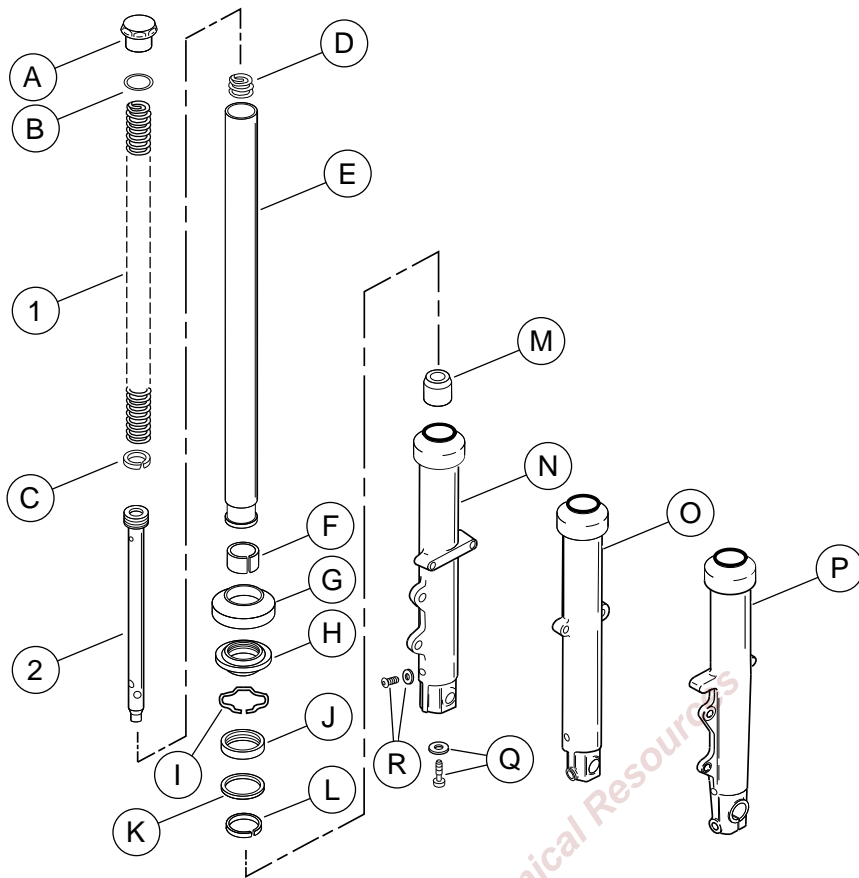

Figure 8. Service Parts for XL Front End Lowering Kit (45480-05)
See Figure 8 and Table 1.
2. See Figure 8. Place a drain pan under fork and remove drain screw (R).
4. See Figure 8. Remove and discard spring (1).
5. Remove cover (G) and dust seal (H).
6. Compress internal circle clip (I). Remove clip from groove in top of slider bore.
7. Remove screw and washer (Q) from bottom of the slider.
8. Withdraw slider tube (E) from slider (N, O or P) until lower bushing (F) on slider tube contacts upper bushing (L) in slider. Use lower bushing in a slide hammer motion to gently tap out oil seal, spacer and upper bushing from slider bore.
9. Remove lower stop (M). The lower stop will be found within the slider (N, O or P) or on the bottom end of the damper tube (2).
11. Remove rebound spring (D), from damper tube. Discard damper tube.
1. See Figure 8. Install new lower bushing (F) in groove of slider tube (E). Expand bushing only wide enough to fit over the tube.
2. Place rebound spring (D) over damper tube (2) and insert damper tube into slider tube (E).
3. Insert new spring (1) into slider tube (E) with the dense coil end down. Push damper tube (2) through opening at the bottom of the tube using the spring. Place the lower stop (M) over the end of the damper tube.
5. Install the screw (Q) into the bottom of the slider (N, O or P). Move the slider tube through its full range of travel within the slider several times to verify proper component alignment. Then, applying downward force on the spring and tighten the screw. Tighten screw to 12-18 ft-lbs (15-25 Nm).
6. Place the upper bushing (L), spacer (K) (concave side downward), oil seal (J) (lettering side upward), and FORK SEAL AND BUSHING INSTALLATION TOOL (Part Number HD-36583) over slider.